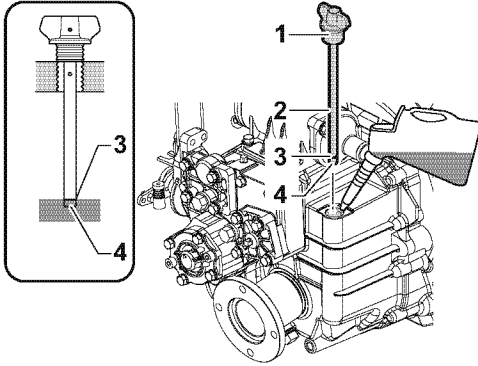

Figure 7
2. Remove the filler cap (**Figure 7, (1)**) at the top of the housing.
3. Remove dipstick (**Figure 7, (2)**) and wipe with clean cloth.
4. Re- insert the dipstick without screw in. See the illustration (**Figure 7**).
5. Remove dipstick. The oil level should be between upper (**Figure 7, (3)**) and lower (**Figure 7, (4)**) lines on the dipstick.
3. Fill with oil to the upper limit on the dipstick (**Figure 7, (3)**). See *Marine Gear Oil Specifications* on page 45.